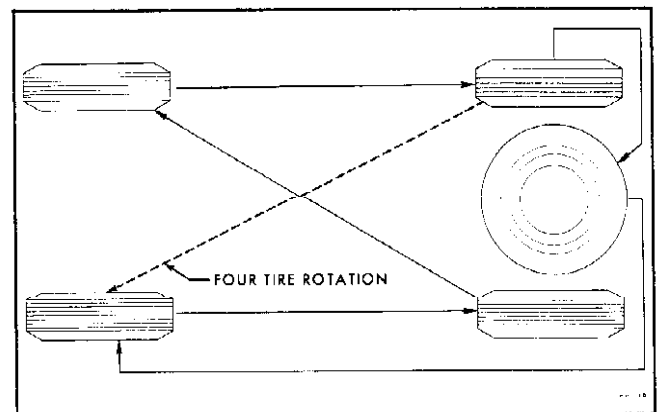

Figure 100-10 Tire Rotation Method
1. Rotate tires as recommended in Figure 100-10.